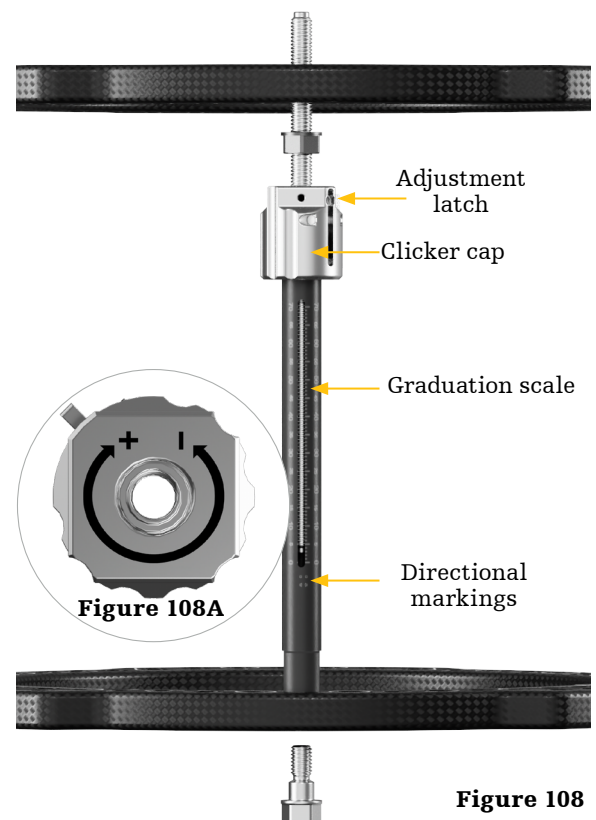

Figure 108
- The threaded rod end is attached to the rings using an M6 connecting nut (4933-1-701). Orient the clickers so that the directional markings on the clicker cap are visible to the patient and the graduation scale faces externally. The clicker’s tube end is attached to the rings using a hardware connection bolt. **(Figure 108)**